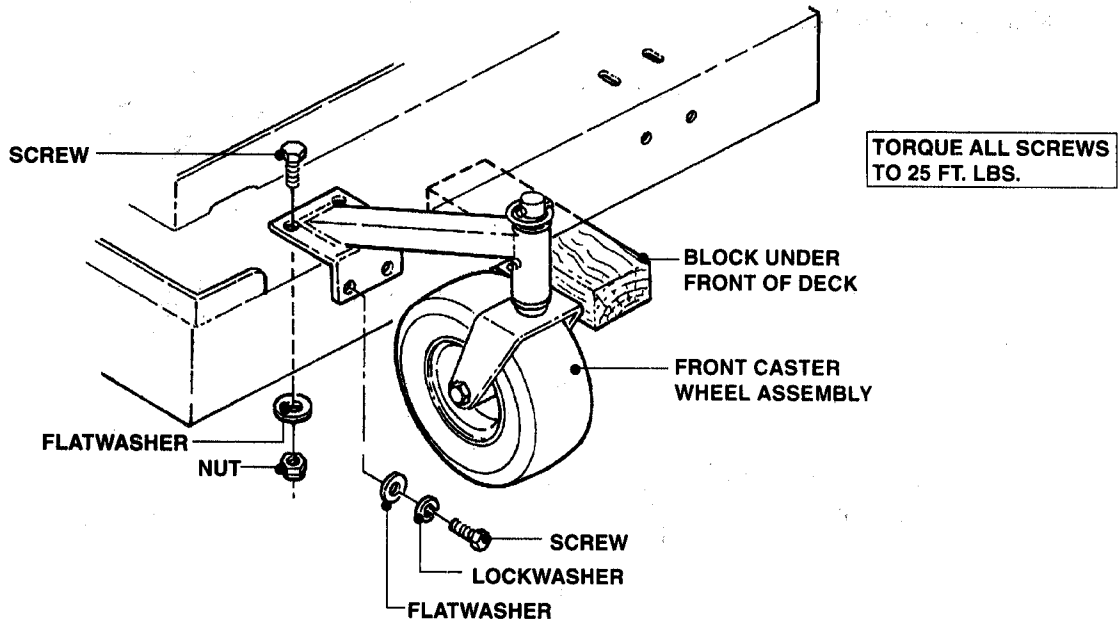

FIGURE 7
- C. Install Caster Wheels as shown in Figure 7.